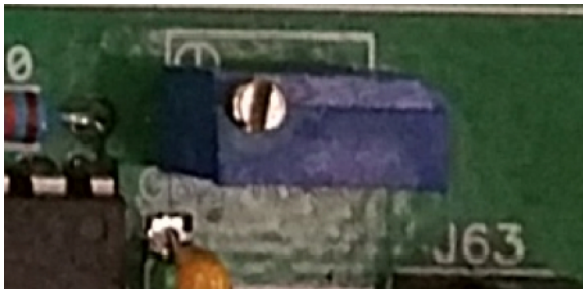

Figure 13: Potentiometer for Frequency adjustment
11. Adjust the PWM frequency by turning the potentiometer's screw shown in Fig. 13. Use a small screwdriver to adjust the screw's position.